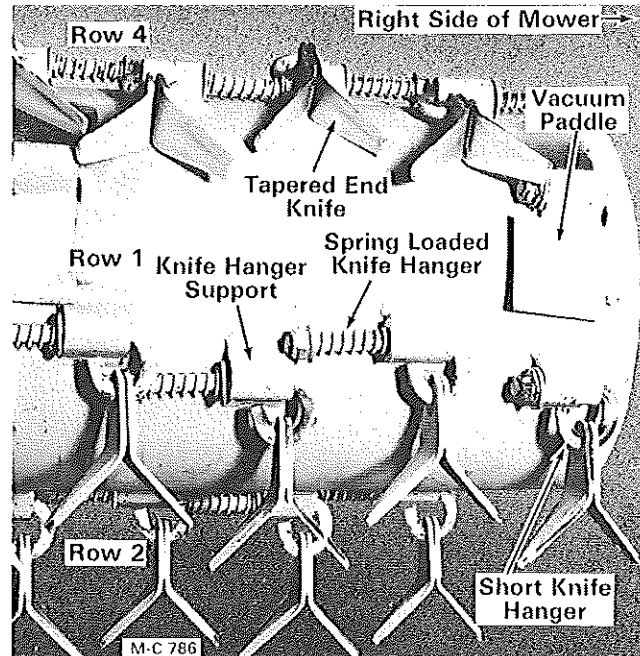

Figure 20 - Tapered Knives - Below S/N 47349
1. The standard vacuum paddles, Figure 20, can be removed by removing the locknut and sliding the vacuum paddle out of the support.